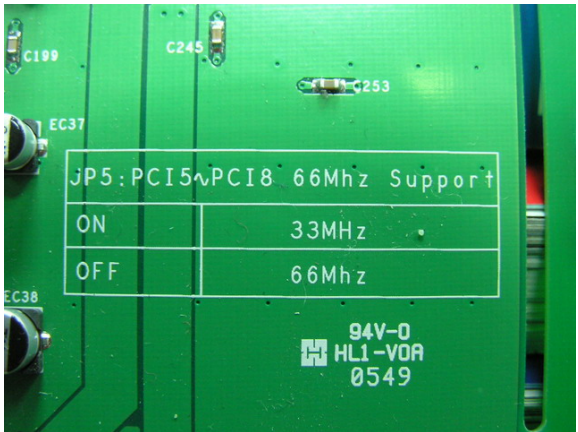
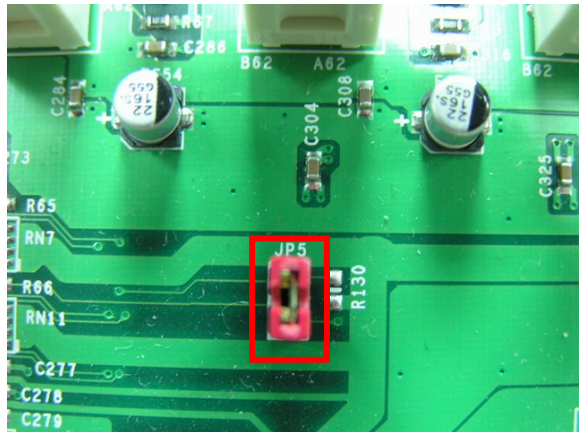

Fig. 10
Fig. 11
**JP5** configures the PCI 5-8 slots working frequency (33MHz or 66MHz) as Fig. 10 shown. By default, the factory setting is the standard working frequency is 33MHz as Fig. 11 shown.